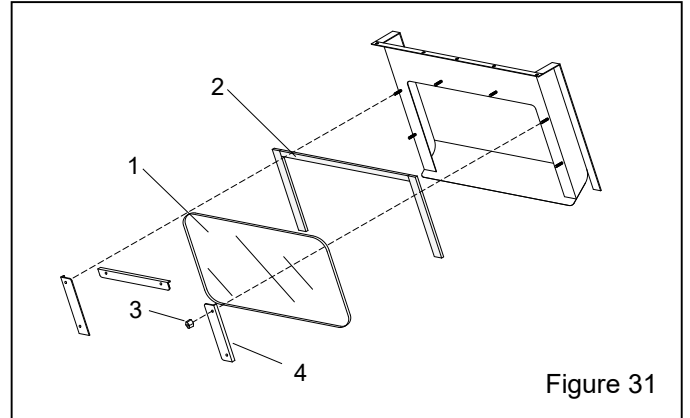

Figure 31
10.5 ClearView™ Window Assembly – Figure 31